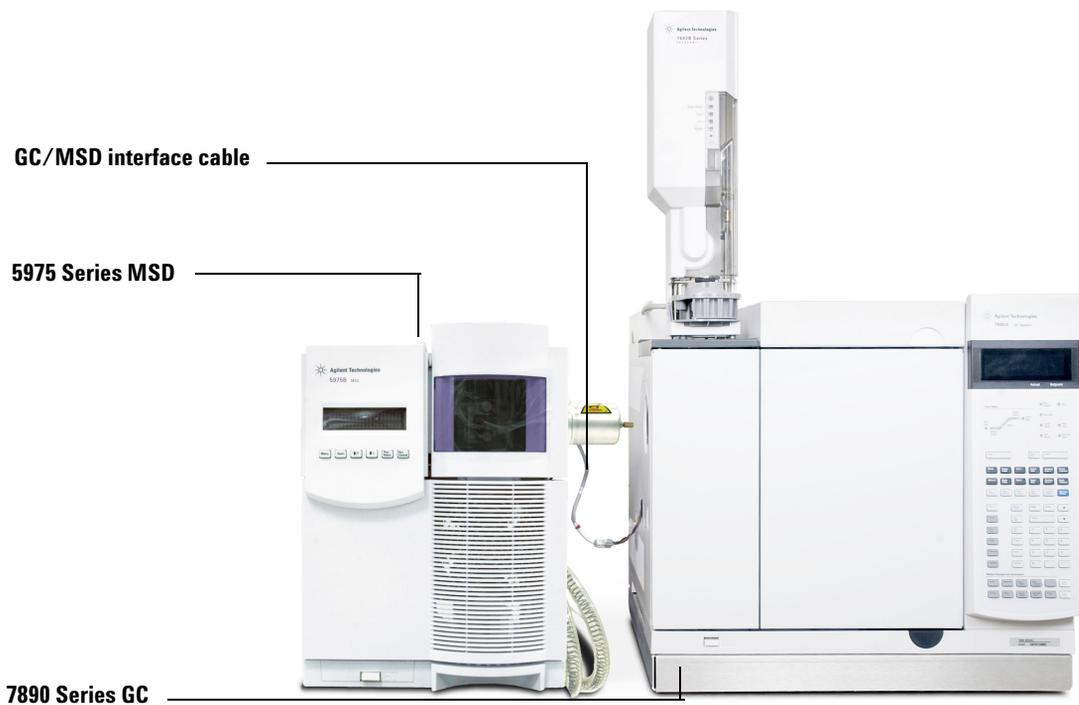

Figure 8 Connecting the MSD and the GC
- 2 Connect the two ends of the GC/MSD interface cable as shown in Figure 8.
- 3 Carefully position the MSD close to the GC as shown in Figure 8.